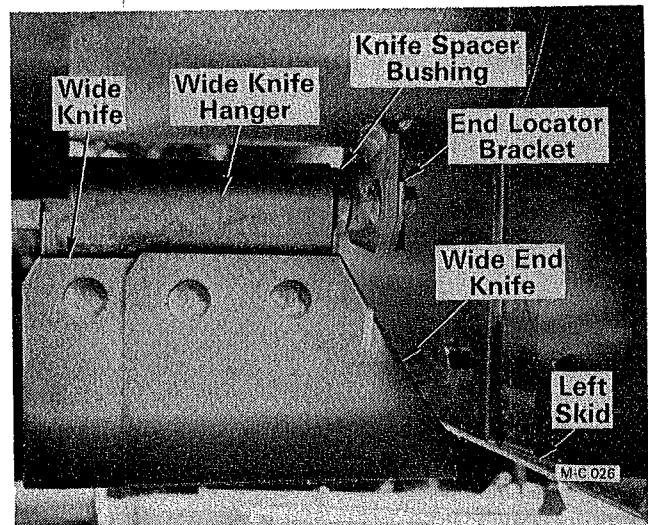

Figure 28
- B. Turn the rotor and line up the hanger bar in the center of the slot in the left side of the body, see Figure 28. Block the rotor in this position.
- B. Remove the inner end locator bracket, see Figure 28. Turn the rotor and line up the hanger bar in the 1¼ inch hole in the front of the Shredder center plate. Block the rotor in this position.
- B. The end knives must be opposite each other at each end of the rotor. The wide end of the knife faces the outside, see Figure 28.
- C. A knife spacer bushing goes between each end locator bracket and wide knife hanger, see Figure 28.